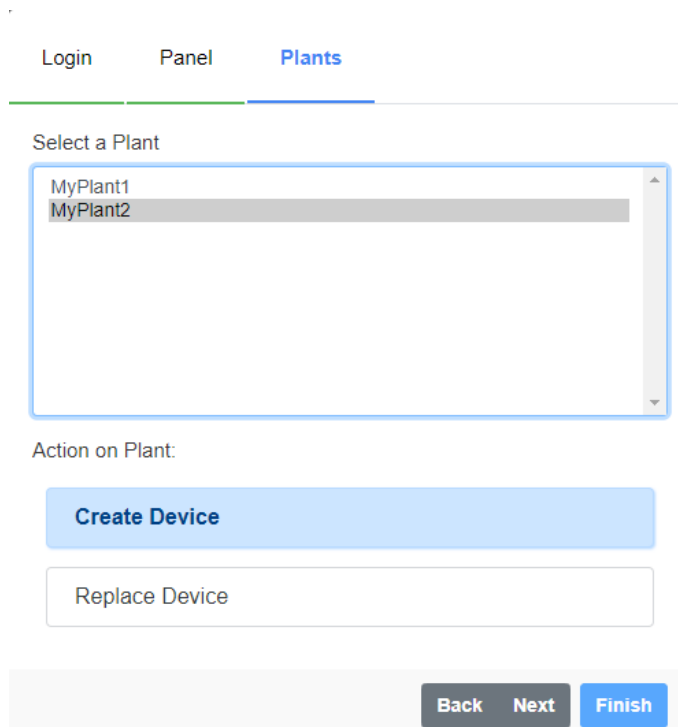

Figure 6.17: Action on the plant of the Drive Scan MFM
- Go to **Step 13** (if “Create Device” option - Figure 6.17);